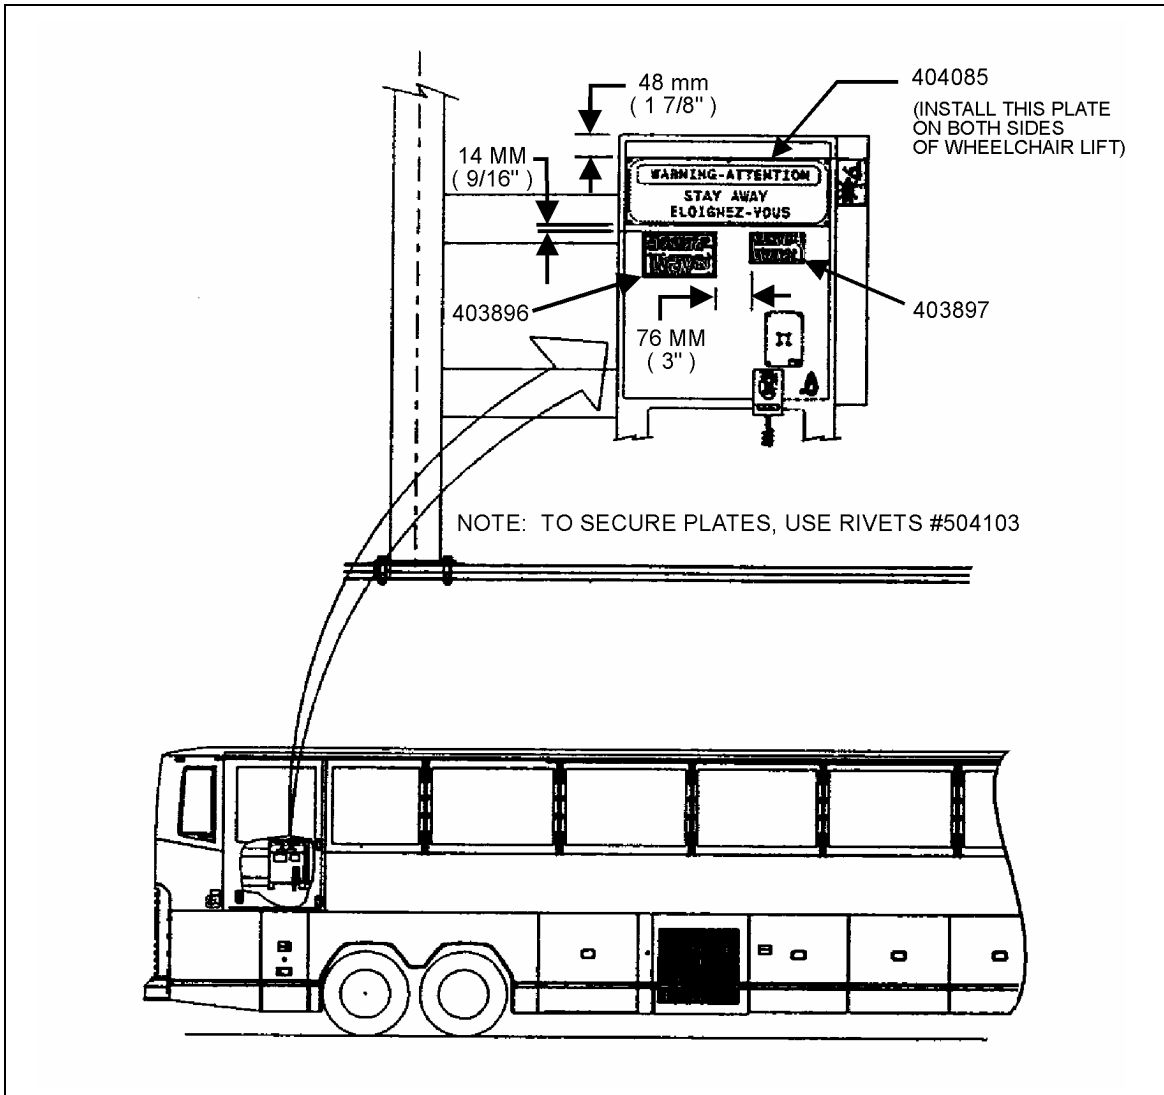

Figure 5
1. Referring to figure 5, identify position where an instruction plate have to be installed then using the plate as a template mark the position of holes to be drilled.